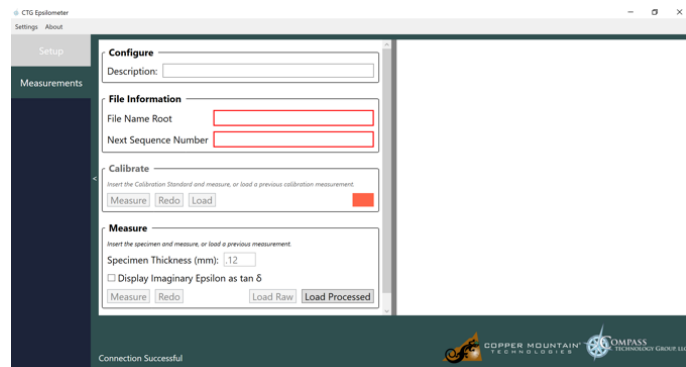

Figure 8. Measurement Screen
1. Select the measurement tab on the far-left side of the window. The program will then display that specific measurement window. (Figure 8)